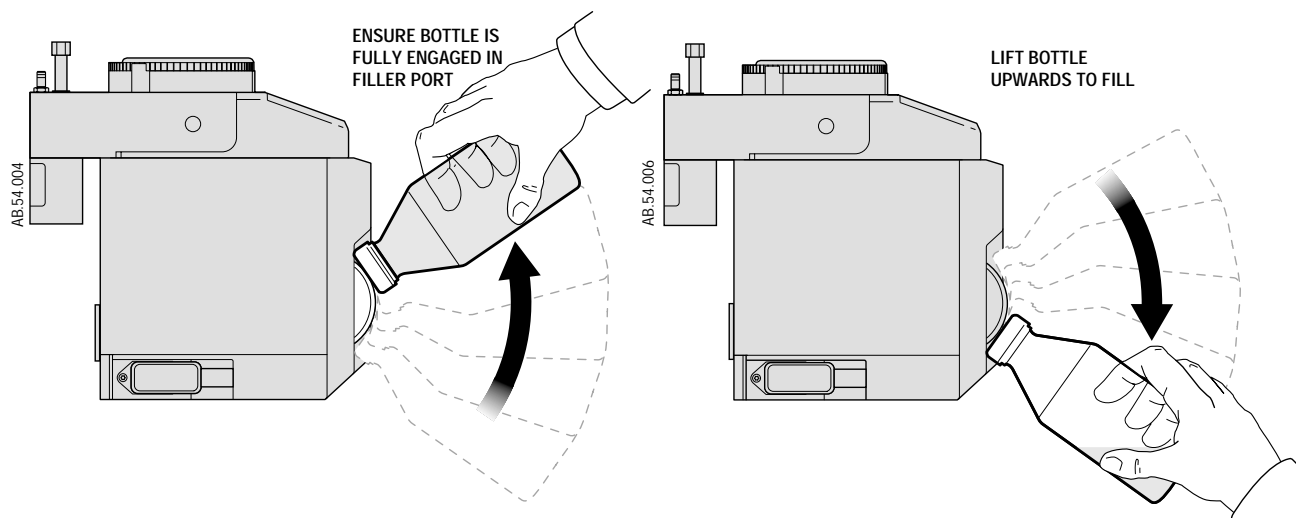

Fig. 17 Filling The Vaporizer
5. When the bottle moves easily, lift it upwards to lock the bottle onto the filler port as illustrated in Fig. 17.